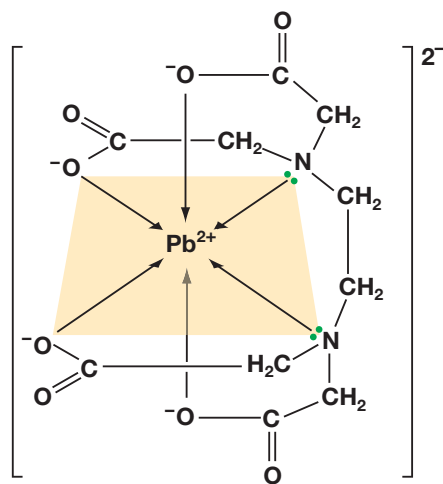

Figure 16.19▲
b) What is the overall shape of the edta complex in Figure 16.19?